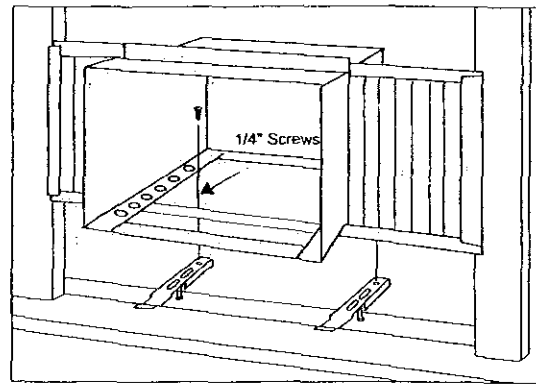

Fig 17
A. Align one hole in the bottom of the cabinet with one hole in the bracket assembly. Secure the cabinet to the bracket using a 1/4" screw provided. Repeat the same procedure on the opposite side of the cabinet. See (Fig. 17)